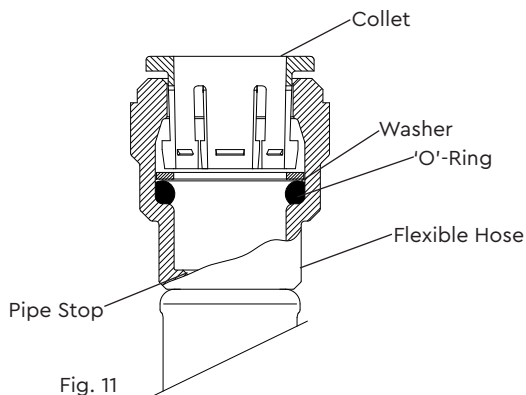

Fig. 11
3. Check in the mouth of the fitting that the 'O'-ring, nylon washer and collet are in position as shown in Fig. 11.